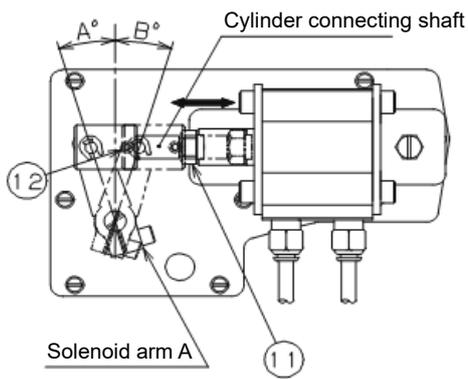

Fig. 11
Activate the knee switch (assembly) to move the air cylinder. At this time, visually check that the operating angles A and B of the solenoid arm A are equal. If they are not equal, loosen the cylinder connecting shaft nut ⑪ (one place) and solenoid collar setscrew ⑫ (one place), turn the cylinder connecting shaft, and adjust solenoid arm operating angles A and B so that they are equal. After adjustment, tighten the cylinder connecting shaft nut ⑪ (one place) and the solenoid collar setscrew ⑫ (one place). (Fig. 11)